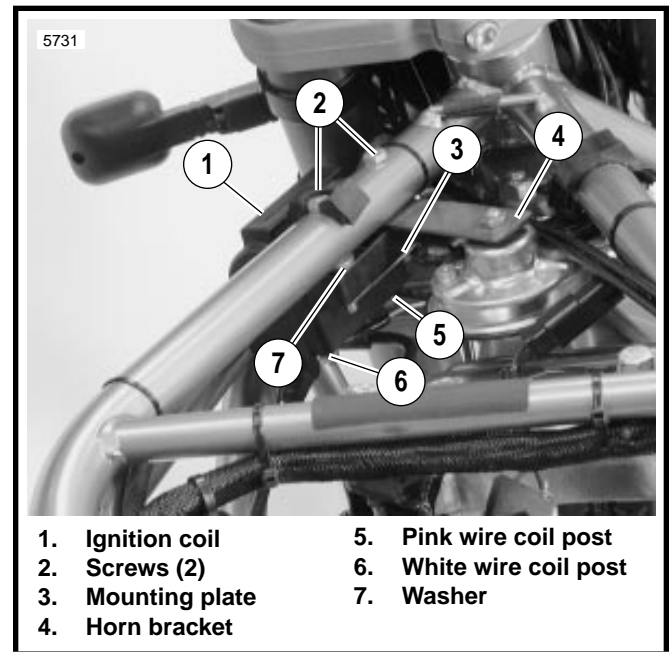

Figure 7-12. Ignition Coil
3. See Figure 7-12. Disconnect spark plug cables from ignition coil.
5. Remove two screws (2). Mounting plate (3), coil (1), horn bracket (4) and washer (7) will drop from frame.
1. See Figure 7-12. Place horn mounting bracket (4) on top of coil. Attach coil to frame with screws (2), washer (7) and mounting plate (3). Tighten screws (1) to 4-6 ft-lbs (5.4-8 Nm).